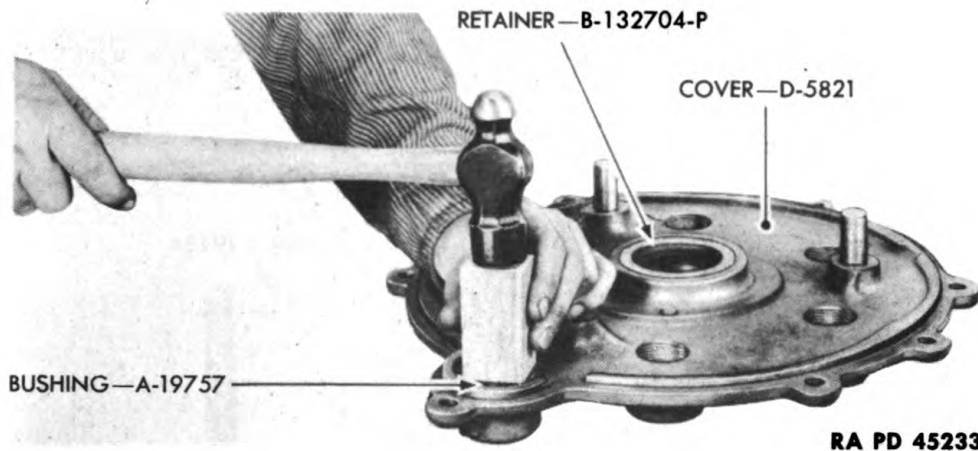

Figure 188—Installing Bushing in Elevating Handwheel Gear Housing Cover
e. Replace Worn Bushing in Elevating Mechanism Housing or Cover (fig. 188).
(1) There are two self-lubricating bushings; one in the housing cover, and the other in the housing. When worn, drive the bushing out using a hammer and a 1 1/8-inch diameter x 6-inch steel bar.
(2) Clean the bearing opening in cover or housing with SOLVENT, dry-cleaning. Coat the outside surface of new bushing with TALLOW, mutton, refined, or LEAD, white, and drive the bushing into place with wood block and hammer (fig. 188).